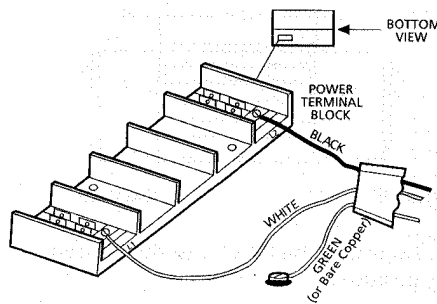

Figure 7
4. Connect the wire to the power block located in the base of the heater (See Figure 7).